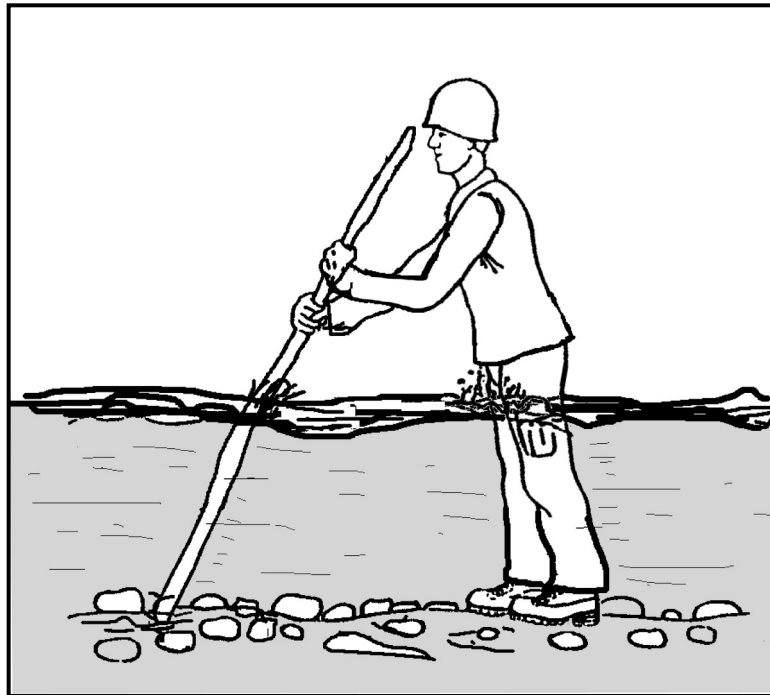

Figure 9-2. Individual crossing with staff.
e. To increase balance, and if available, a long ice ax, sturdy tree limb, or other staff can be used to give the individual a third point of contact (Figure 9-2). The staff should be used on the upstream side of the individual and slightly leaned upon for support. The staff should be moved first, then the feet shuffled forward to it. This allows two points of contact to be maintained with the streambed at all times. The individual still moves at a downstream angle with the downstream foot in the lead.